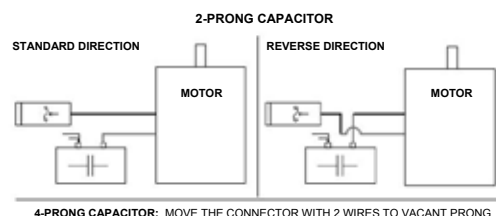

Fig. 1 — Control Box Wiring Diagram
3. Swap wires or connectors per the wiring diagram located inside of the control box cover; a general diagram also appears as Fig. 1 on pg. 5.